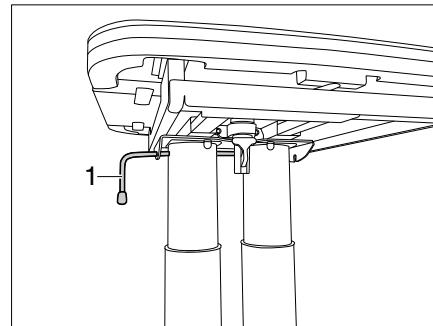

Fig. 111 Lock the table
- Swivel the catch lever (Fig. 111,1) to the left. The lock is open.
- Swivel the catch lever (Fig. 111, 1) to the right. The lift-off table is locked.